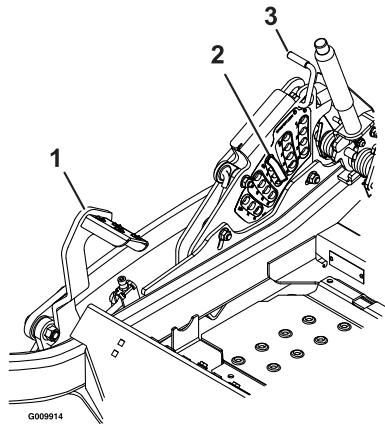

Figure 29
5. Push the foot pedal all the way forward and the deck will latch at the 5 1/2 inch (14 cm) transport position (Figure 29).